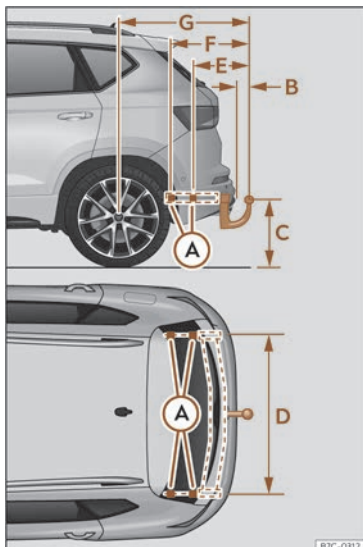

Fig. 175 Limits and attachment points for retrofitting a towing bracket.
The distance between the centre of the ball head and the road >>> **Fig. 175** (C) must never be less than that indicated. This also applies when the vehicle is fully loaded, including the technically permissible maximum vertical load on the coupling device.